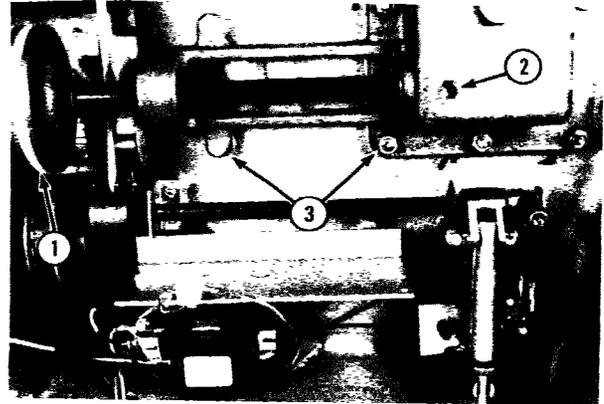

Fig. 2-30
- (1) Lift the bowl cover and remove it from the hinge pins.
- (2) Remove the comb and knife assembly.
- (3) Remove the bowl.
- (4) Using a support so the electrical cord will not be damaged, lay the machine on its back.
- (5) Remove the bottom cover and leg assembly from the bottom of the housing.
- (6) Remove the bowl drive belt (1, Fig. 2-30) from the bowl drive pulley.
- (7) Remove the plug (2, Fig. 2-30) on the bottom of the gear case and drain the oil.
- (8) Remove two bolts and six nuts and lockwashers (3, Fig. 2-30) holding the gearcase to the housing. Remove the gear case.